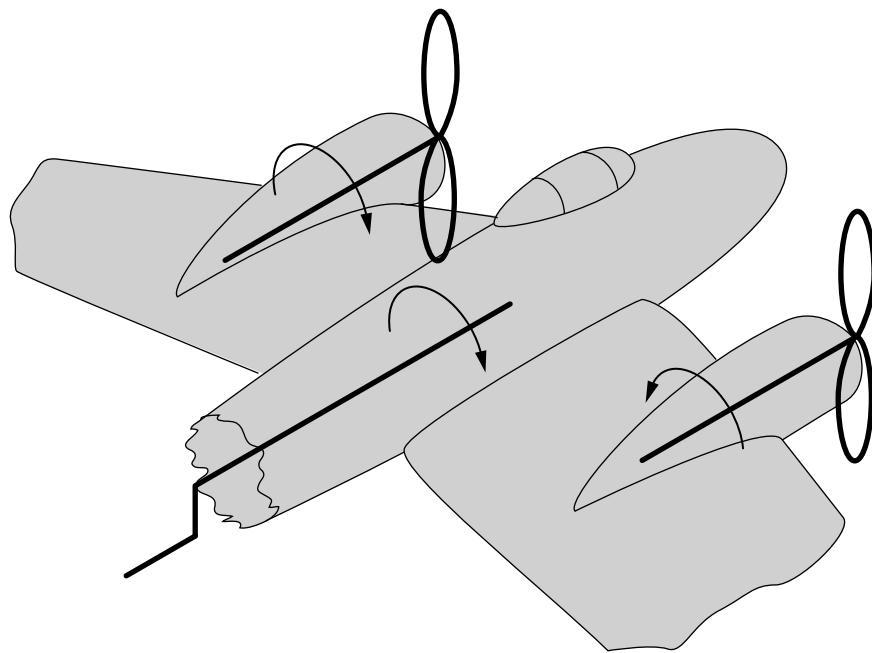

Fig. 10
- 5 Fig. 10 shows part of a model of a twin propeller aeroplane.
- (a) (i) Add sketches and notes to Fig. 10 to show a mechanism that rotates the two propellers in opposite directions when the handle is turned. [4]